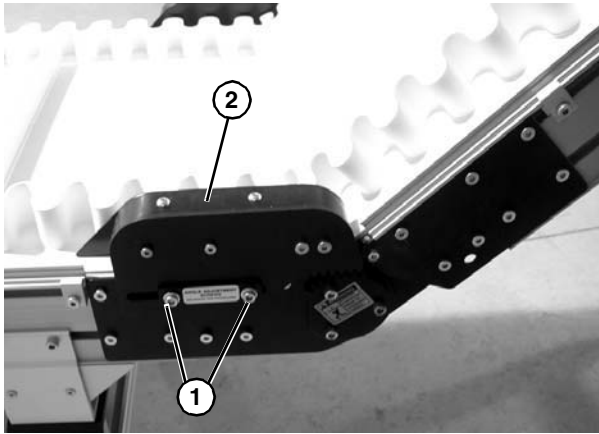

Figure 79
1. Remove screws (**Figure 79, item 1**) and remove lower knuckle return roller assembly (**Figure 79, item 2**) on both sides of knuckle, note the position of the meshing teeth.